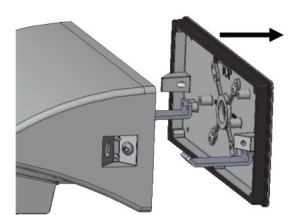

Fig. 7
8. Separate the back mounting plate from the driver box. A flat head screwdriver may be needed to remove the back mounting plate from the driver box (**Figure 7**).